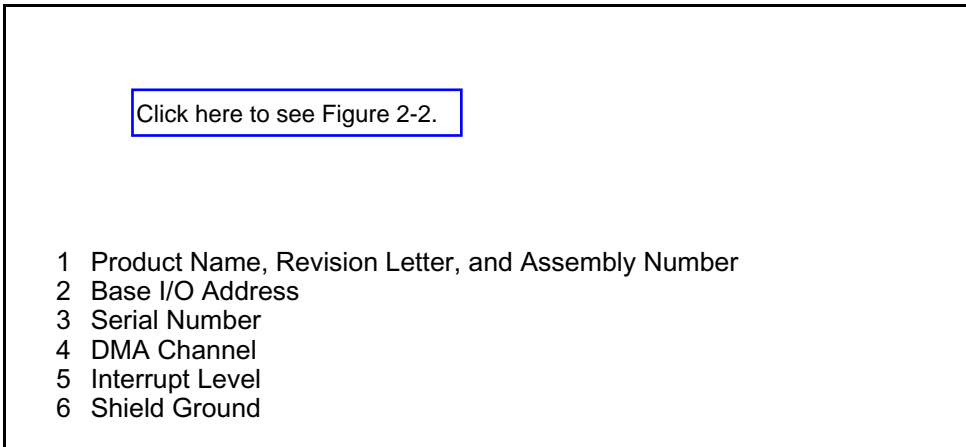

Figure 2-2. TNT4882 Evaluation Board Parts Locator Diagram
Figure 2-2 shows the location of the configuration jumpers and switches on the TNT4882 evaluation board.
2. Locate the base I/O address switch at SW1 on your TNT4882 evaluation board. Refer to Figure 2-2.